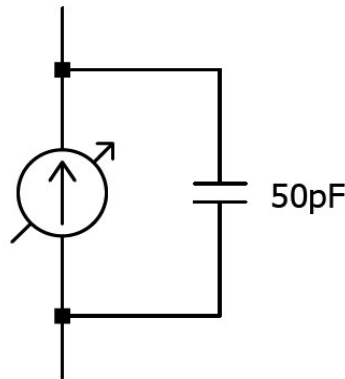

Figure 12.30: Current source model of a photo-diode.
1. Use the 5Spice circuit simulator to simulate the ideal theoretical behavior of the circuit in Lab 10 part 4a (use LM741 as the Op-Amp). Replace the photodiode with the following sub-circuit of figure 12.30 below.